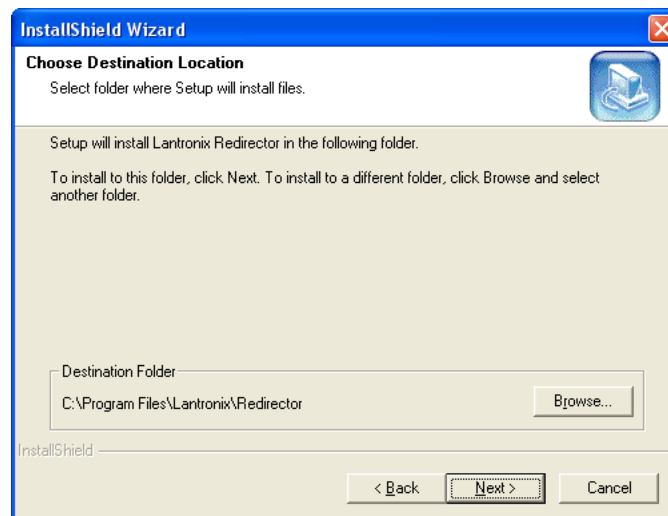

Figure 6.3 – Choose Destination Location Dialog Box
- c. Click the **Next** button. The **Choose Destination Location** dialog box appears (Figure 6.3).